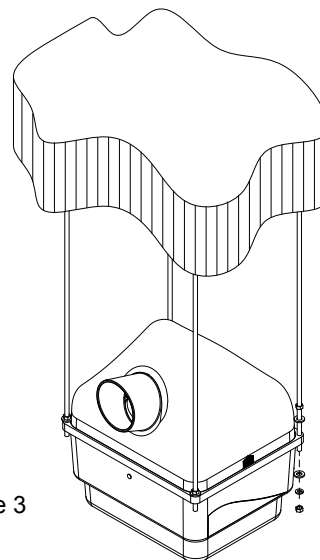

Figure 3
1. Refer to Figure 3. The humidifier base has holes at the four corners that may be used to suspend the unit from the ceiling using threaded rods.